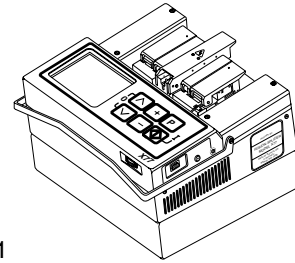

Figure 1
1. Disconnect the splicer from all power sources (Figure 1).